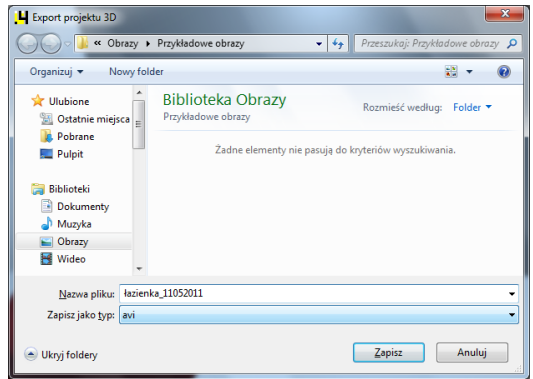

Fig. 478 – saving an AVI video to the disk
- enter the name of the file and select the destination location for it (Fig. 478);